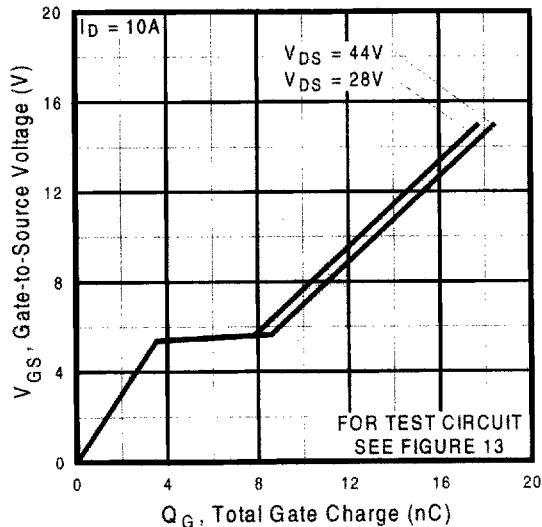

Fig 6. Typical Gate Charge Vs. Gate-to-Source Voltage
| Q_{gd} | Gate-to-Drain ("Miller") Charge | — | — | 7.6 | | $V_{GS} = 10V$, see figure 6 and 13 ④⑥ |